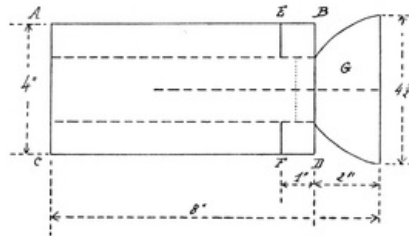
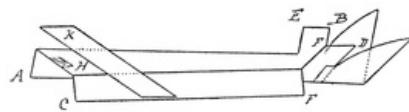

FIG. 478
FIG. 479
**Another Glider.** Cut out a piece of paper 8 inches by 4 inches, A B C D in Fig. 478. Mark B E and D F each 1 inch; make cuts along the dark lines at E and F to the depth of 1 inch. Draw the broken lines along the paper, dividing it into four equal strips. Bend sides A E and C F downward along dotted lines. Bend E B and F D upward along middle dotted lines, and press side C F toward side A E, part way along this line, but leaving the part near the ends A C flat; to this end plane K will be gummed (Fig. 479). K is 6 inches by 1 inch. Cut tail, G, and gum on as in diagrams. It can be weighted at H by gumming several strips of cardboard across or by affixing sealing-wax. Although this is not a very graceful-looking glider it works most successfully, and will describe quite a graceful curve toward the ground.